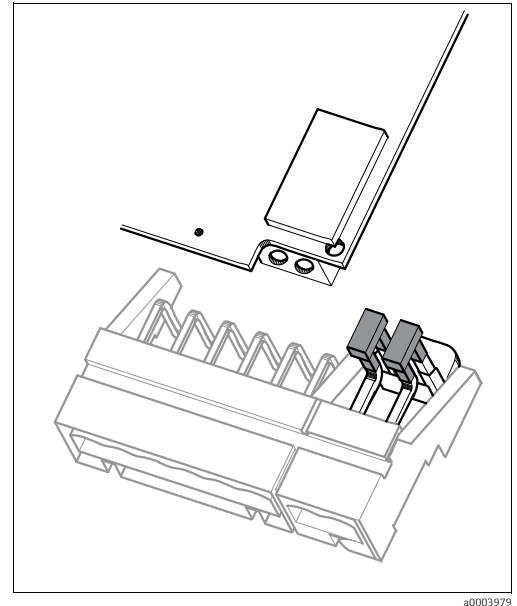

Fig. 24: pH input module in the housing cover with jumper for connecting ISFET sensors
6. Pin up the jumpers supplied as illustrated in Fig. 24.